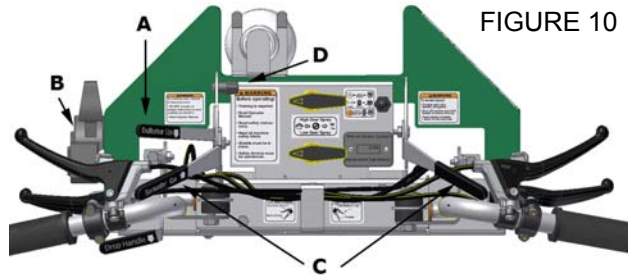

FIGURE 10
This machine uses a familiar 3-hole cyclone type spreader mechanism that broadcast spreads a pattern width of 14 ± 1 feet (4.3 ± 0.3 meters). Using a 7 ± 1 foot (2.1 ± 0.3 meters) overlap travel pattern provides an even distribution of most products. Referring to FIGURE 10: A Deflector Lever (A) remotely controls a Deflector to cut off the right side of the spread pattern for trimming. A Third-hole Lever (B) remotely controls a Third-hole Adjustment Plate that should be used with the Deflector to compensate for the amount of product required while trimming and to balance the spreader pattern for even distribution. An opening and closing Hopper Lever (C) remotely controls the delivery of granular material from the Hopper. A Rate Adjustment Knob (D) adjusts the amount of product delivered when the hopper is open. The sprayer can be operated at the same time the spreader is in use, and the seven-foot overlap pattern is also effective for the sprayer.